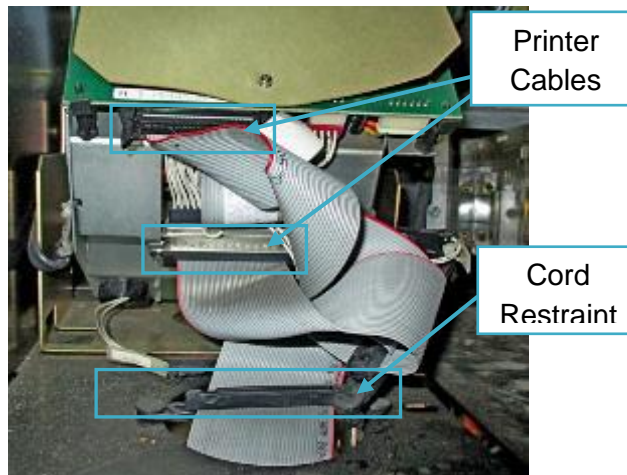

Fig. 1.16 – Remove printer cables and cord restraints
- 16.** On the opposite side of the dispenser open the right-hand door using the same techniques outlined in steps 4 & 5 above. From that side, unplug the printer's data and power cables. Remove or unfasten any cord restraints that may be attached to the printer's cable assemblies. (Fig. 1.16)